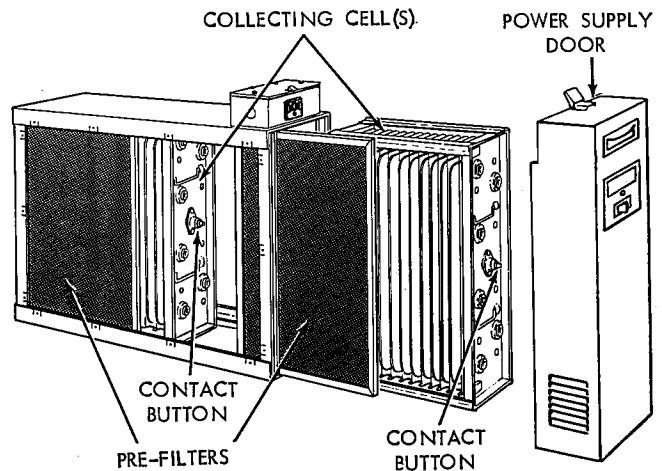

Figure 19
8. With the cabinet installed, re-install pre-filter(s) and collecting cell(s) (figure 19).